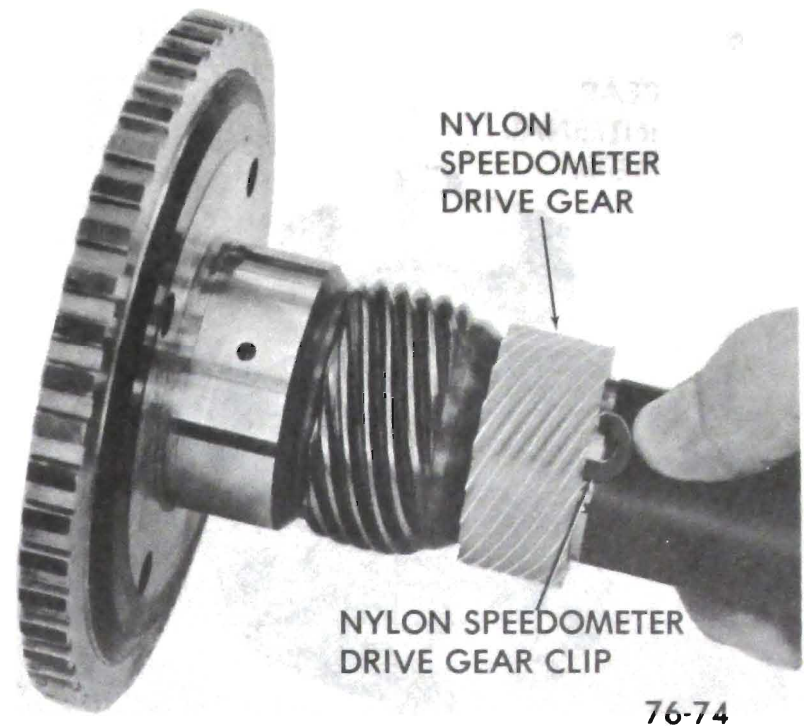

Figure 76-112
e. Align slot in speedometer drive gear with retaining clip and install gear. See Figure 76-112.